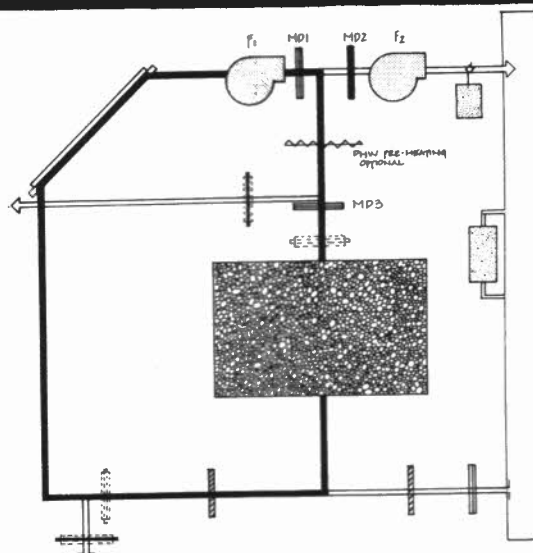

Figure 8.2 Collector to Storage Mode
**FIG 8.2 COLLECTOR TO STORAGE:** Whenever the collectors are at least 20° F hotter than storage ( $\Delta T$ ), and this heat is not needed by the house ( $W_1$ ) the heat is stored in the rock bin. In this mode M.D.1 and M.D.3 open and the Collector Fan ( $F_1$ ) turns on. Since M.D.2 is closed, the hot air is forced through the rock bin transferring its heat to the rocks. Cool air is then returned to the collector.